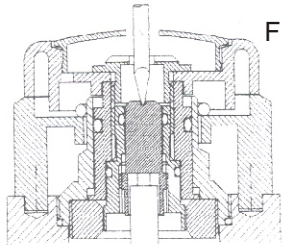

FIG 1
* To adjust the temperature supply ensure that the water is flowing and remove the knob insert (1) from the valve. Using a narrow bladed screwdriver, insert it through the retaining screw (2) until it is located in the slot of the adjusting screw (12). (fig 1).
* When the water is flowing at a desirable Temperature simply replace the knob insert (1).
* For locked control position knob (3) so that the stops found on the inside of the knob are each side of the lug in the sleeve (4). Screw in retaining screw (2), set temperature (as above) and replace the knob insert (1). The valve is factory set in this position.
* For limited temperature adjustment position knob (3) with the stops to the left of the lug in the sleeve (4). Screw in retaining screw (2), set temperature (as above) and replace the knob insert (1).
* This valve is factory set at a high pressure with the bottom cap (21) open 3/4 turn. The hot arrow on the serial sticker on the bottom cap (21) will be pointing towards High on the sticker on the bottom of the valve body (17). To change to Low pressure turn the bottom cap (21) anti-clockwise 1/4 turn until the Hot arrow points towards Low on the sticker on the bottom of the valve body (17).